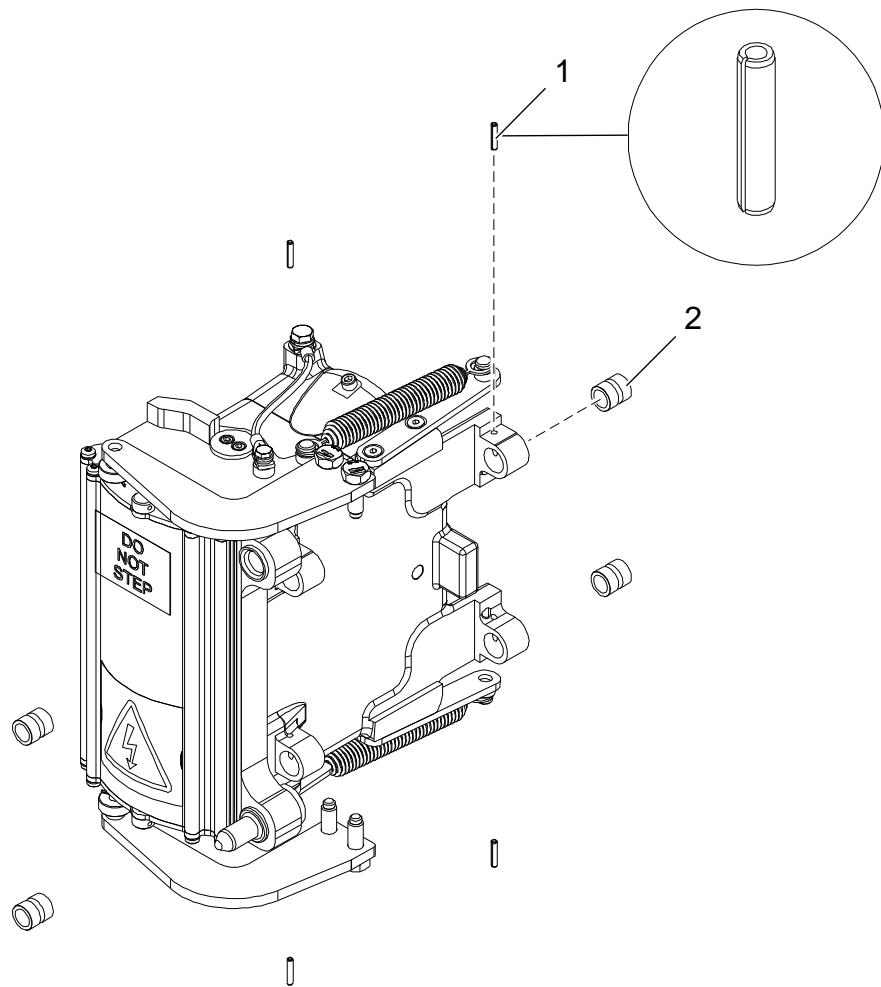

Figure 7-14: Replacement of Guide Pin Bearing
2. Remove the spring pin (1). See Figure 7-14.
3. Press the guide bearing (2) out of the bracket.
2. Check that the guide bearing (2) is dry and free from grease. See Figure 7-14.
3. Fit the guiding bearing (2) to the Mounting Tool, 1044989.
4. Fit guide bearing (2) into the bracket using Mounting Tool, 1044989. Ensure that the groove in guide bearing aligns with hole for the spring pin (1).
5. Fit the spring pin (1) making sure the slit in the spring pin is faced away from the guide bearing.